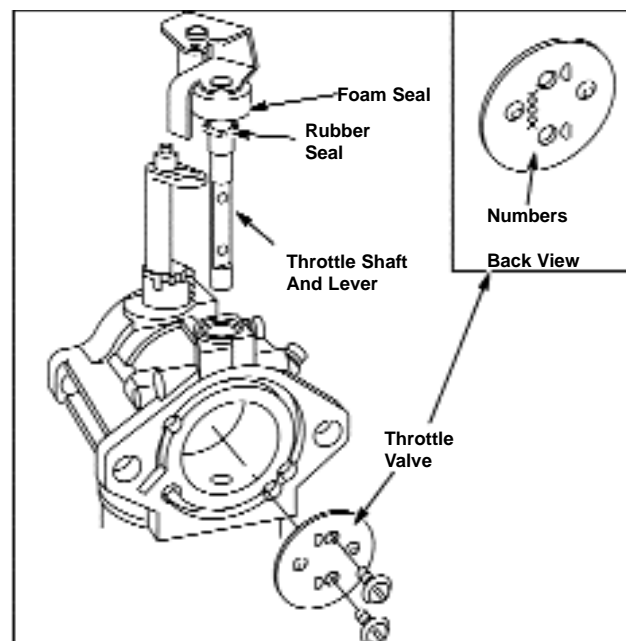

Figure 52 - Installing Throttle Shaft
6. Place a drop of Loctite® on screw threads and tighten. See Figure 52.